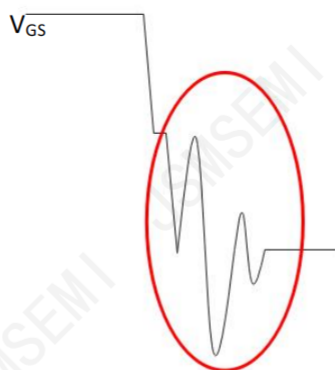

Figure 10 .Grid ringing
- 1) Grid signal rings, causing MOS damage (as shown in Figure 10);